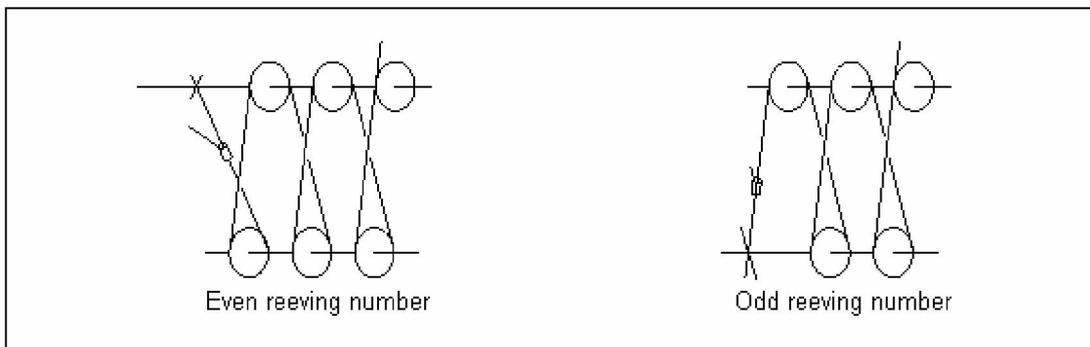

Fig. 04 – 43
- (1) You must change the location of the hoisting limit switch weight if you have a different number of wire rope reevings. See Fig. 04 – 43.